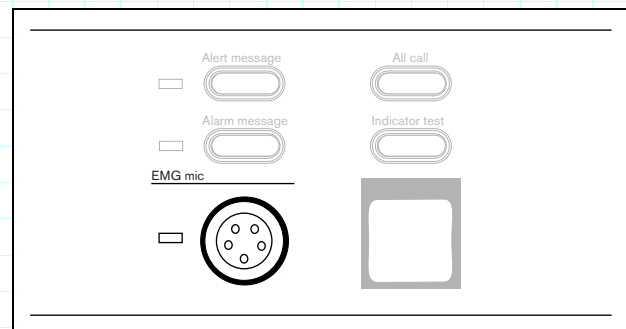

figure 5.15: Emergency microphone indicator
- The red EMG mic indicator is lit (see figure 5.15).